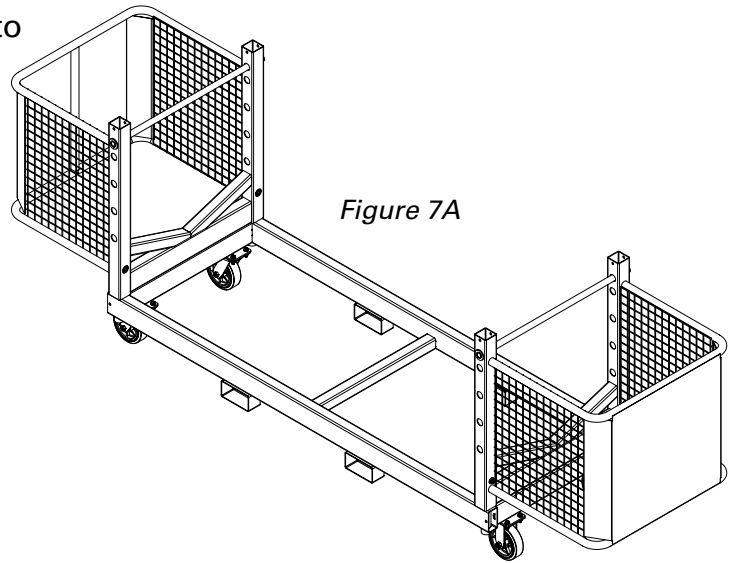

Figure 7A
1. Ensure the extension baskets are in the extended position. (See Figure 7A).